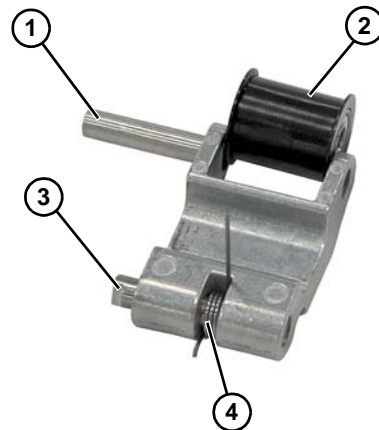

Figure 41
7. Remove roller pin (Figure 41, item 1), roller assembly (Figure 41, item 2), tensioner axle (Figure 41, item 3) and tensioner spring (Figure 41, item 4) from tensioner block.